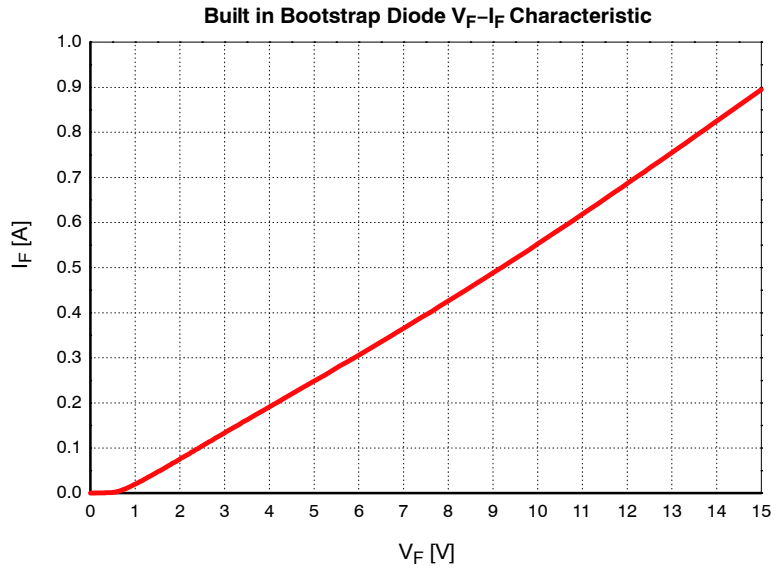

Figure 2. Built-in Bootstrap Diode Characteristics (Typical)
9. Built in bootstrap diode includes around $15\ \Omega$ resistance characteristic. Please refer to Figure 2.